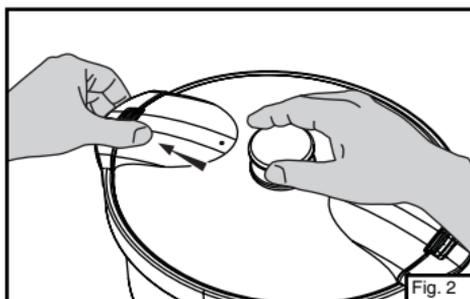

Fig. 2
- Prepare the food and place in the cooking vessel. Cover with the lid. Release the lid latch before installing or removing the lid. (Fig. 2)